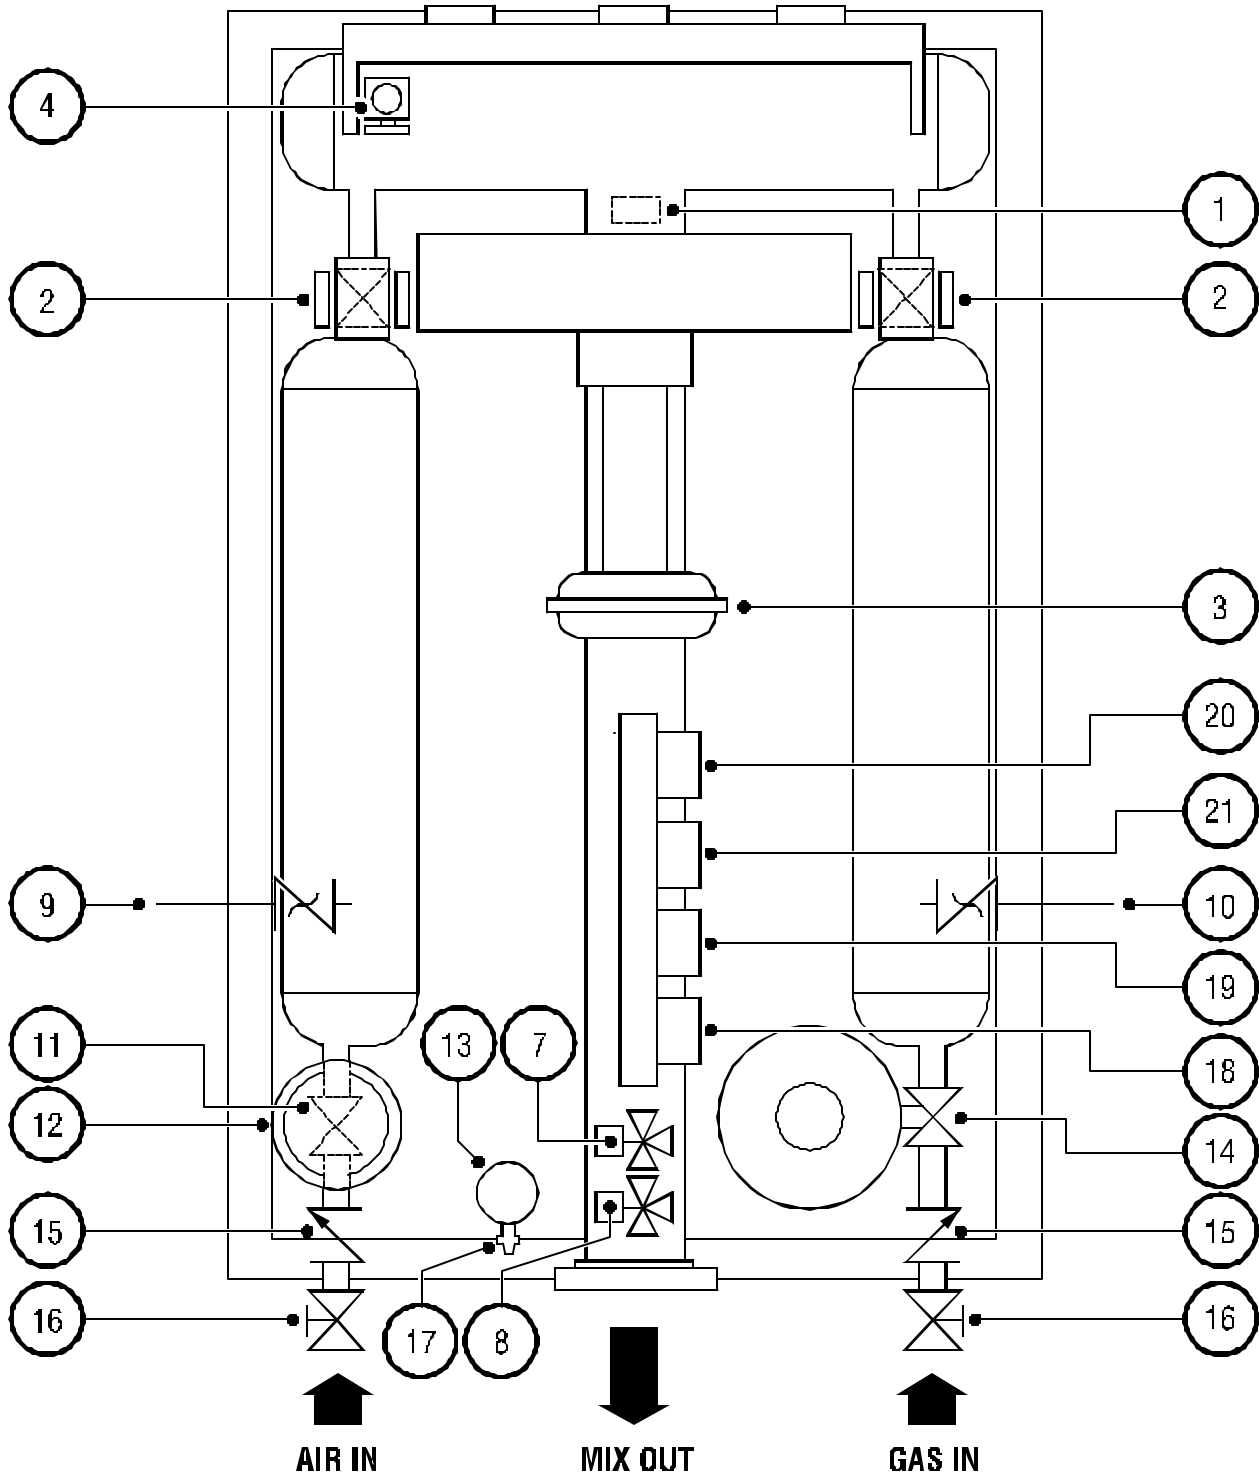

Figure 2-3 - Typical MPM Series Assembly
2.05 Figure 2-3 illustrates a typical MPM Series Mixer with key number call-outs for all the major elements and controls.